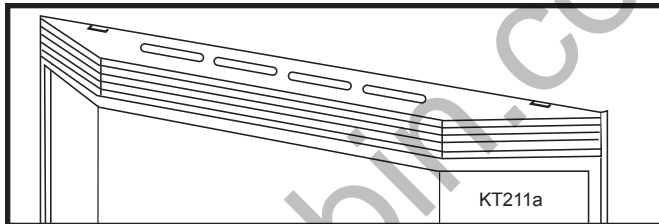

Fig. 67 Engage the slots in the upper grille top louvre with the upper tabs of the hanging brackets.
5. Install top louvre by engaging the oblong holes with the upper tabs of the hanging brackets. (Fig. 67)